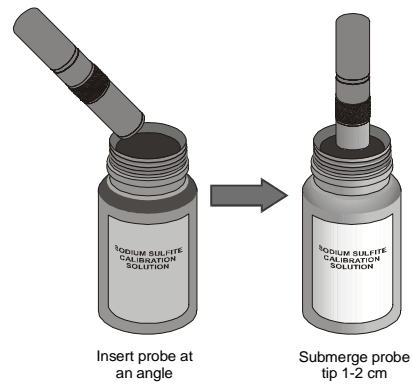

Figure 2
- a. Remove the probe from the water bath and place the tip of the probe into the Sodium Sulfite Calibration Solution (see Figure.2)